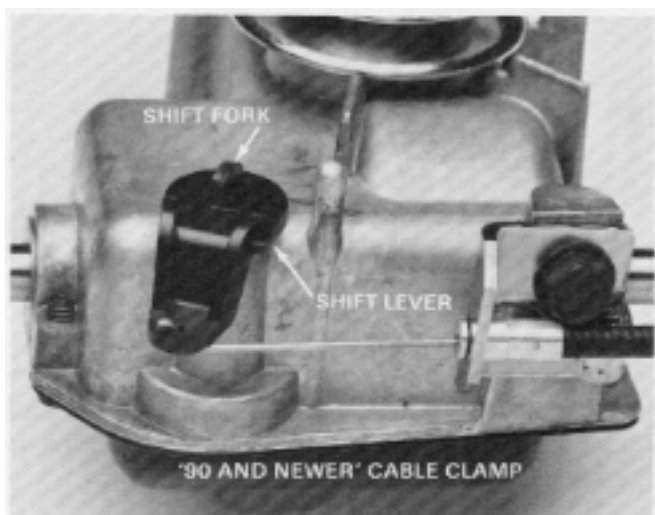

Figure 72
1. Slip the gear selection cable into the shift fork shift lever through the bottom as shown in Figure 72.